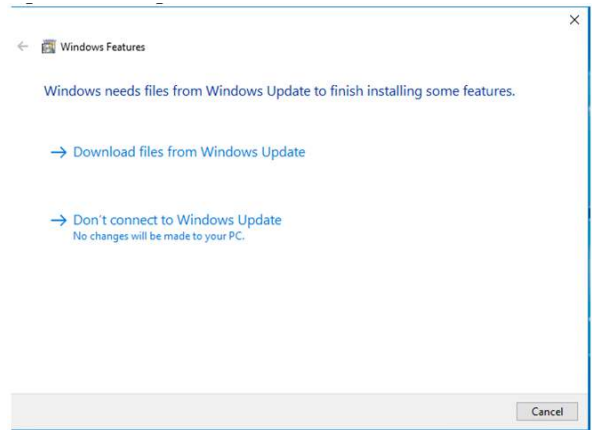

Figure 4. Prompt to Download Windows Update
- c) After selecting the checkbox and clicking **OK** the dialog box in Figure 4 appears. Please note a valid internet connection is needed for this step. Select the **Download files from Windows Update** option and after installation the EVAL-AD7768FMCZ will operate as expected.